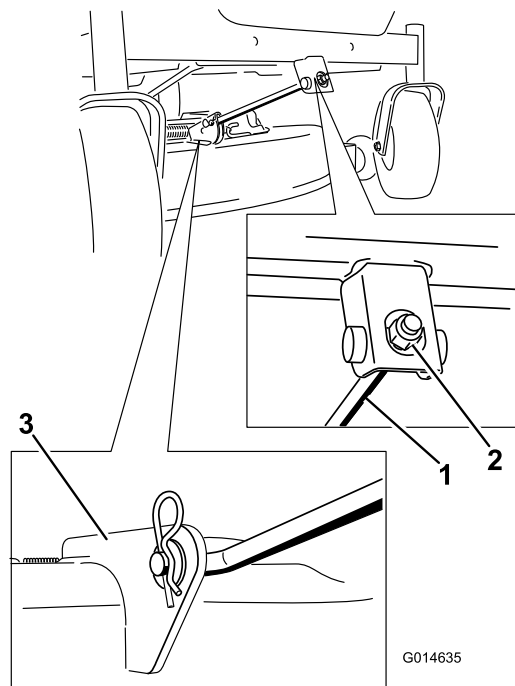

Figure 59
4. Remove the hairpin cotter from the front support rod and remove the rod from the deck bracket (Figure 59). Carefully lower the front of the mower deck to the ground.
6. Attach the front support rod to the mower deck with the clevis pin and hairpin cotter (Figure 59).